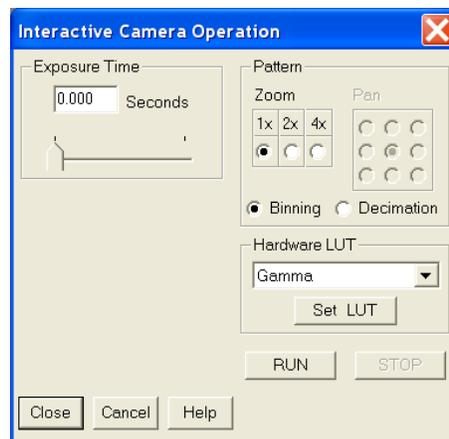

Figure 27. ST-133
2. Select **Video Focus** from the **Acquisition** menu. The **Interactive Camera** dialog (Figure 27) will open.